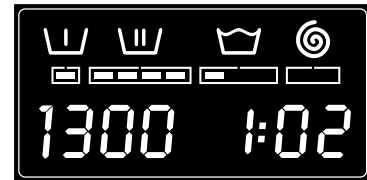

fig. 30
- When the programme is running, the programme phase and the time remaining will appear on the display (Figure 30).
- The active phases will appear successively at the top of the display as the programme progresses (Figure 30). The time remaining until the end of the programme will also appear on the display. It updates at regular intervals, but not minute by minute.